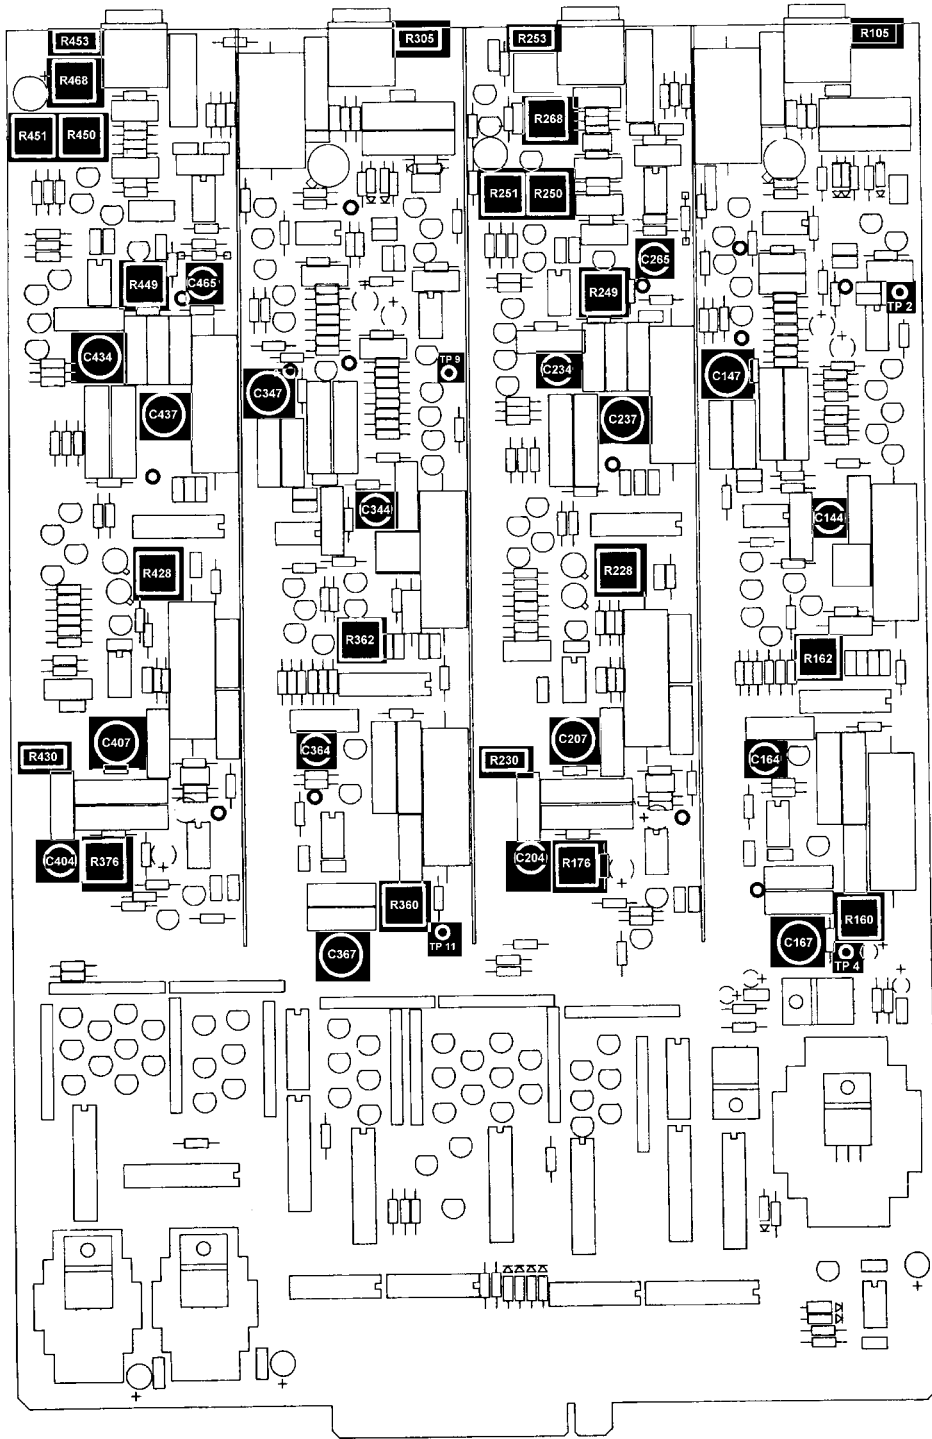

Figure 2. Motherboard.
- h. Connect true rms voltmeter to test point TP 4 (fig. 2) and chassis ground.
- j. Alternate calibrator and TI frequencies between 25.6 kHz and 175 kHz using technique of **f** above to enter TI frequency. Adjust C167 (fig. 2) for a -5.33 dB true rms voltmeter indication or split the difference between the two readings.
- k. Connect true rms voltmeter to TP 2 (fig. 2) and chassis ground.
- l. Alternate calibrator and TI frequencies between 25.6 kHz and 175 kHz using technique of **f** above to enter TI frequency. Adjust C147 (fig. 2) for a -5.33 dB true rms voltmeter indication or split the difference between the two readings.
- n. Press corresponding keys as listed in (1) through (5) below and verify **CUTOFF FREQUENCY** indicates **2.100**.
- (1) **2** data entry key.
- (2) **.** data entry key.
- (3) **1** data entry key.
- (4) **KILO** parameter key.
- (5) **FREQ** parameter key.
- o. Alternate between TP 2 and TP 4. Adjust R162 (fig. 2) for a -5.33 dB true rms voltmeter indication or split the difference between the two test point readings.
- p. Connect true rms voltmeter to test point TP 4 (fig. 2) and chassis ground.
- q. Press corresponding keys as listed in (1) through (5) below and verify **CUTOFF FREQUENCY** indicates **256.0**.
- (2) **5** data entry key.
- (3) **6** data entry key.
- r. Adjust calibrator for a 256 kHz, 1 V output. If true rms voltmeter does not indicate -5.33 dB, adjust C164 (fig. 2) until true rms voltmeter indicates -5.33 dB.
- t. Connect true rms voltmeter to test point TP 2 (fig. 2) and chassis ground. If true rms voltmeter does not indicate -5.33 dB, adjust C144 (fig. 2) until true rms voltmeter indicates -5.33 dB.
- v. Connect true rms voltmeter to test point TP 4 (fig. 2) and chassis ground.
- w. Alternate calibrator and TI frequencies between 25 kHz and 250 kHz using technique of **f** above to enter TI frequency. Adjust R160 (fig. 2) for a -5.33 dB true rms voltmeter indication or split the difference between the two readings.
- d. Press corresponding keys as listed in (1) through (4) below and verify **CUTOFF FREQUENCY** indicates **25.00**.
- (3) **KILO** parameter key.
- (4) **FREQ** parameter key.
- f. Press **MODE** parameter key until **CUTOFF FREQUENCY** display indicates **L.P**. If true rms voltmeter does not indicate 0 dB,  $\pm 0.01$  dB, adjust R250 (fig. 2) until true rms voltmeter indicates 0 dB,  $\pm 0.01$  dB.
- g. Press corresponding keys as listed in (1) through (4) below and verify **CUTOFF FREQUENCY** indicates **256.0**.
- j. Press **MODE** parameter key until **CUTOFF FREQUENCY** display indicates **h.P**. If true rms voltmeter does not indicate 0 dB,  $\pm 0.01$  dB, adjust R251 (fig. 2) until true rms voltmeter indicates 0 dB,  $\pm 0.01$  dB.
- b. Press corresponding keys as listed in (1) through (3) below and verify **CUTOFF FREQUENCY** indicates **2.000**.
- (2) **KILO** parameter key.
- (3) **FREQ** parameter key.
e. Adjust calibrator for a 2 MHz, 0.1 V output. If true rms voltmeter does not indicate 0 dB, ±0.01 dB, adjust C265 (fig. 2) until true rms voltmeter indicates 0 dB, ±0.01 dB, or as close to 0 db as possible.
f. Press corresponding keys as listed in (1) through (5) below and verify **CUTOFF FREQUENCY** indicates **1.500**.